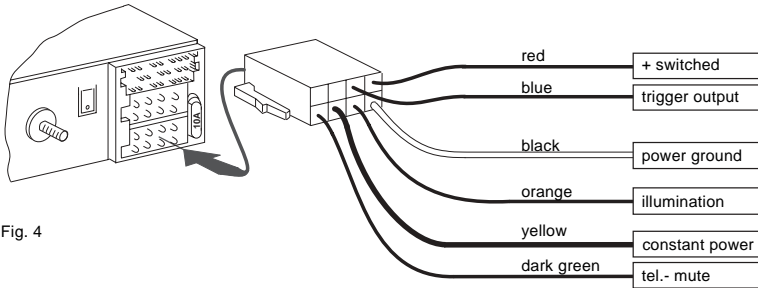

Fig. 4
A. Connect the Wire Harnesses to the Vehicle's Electrical System (See Fig. 4)